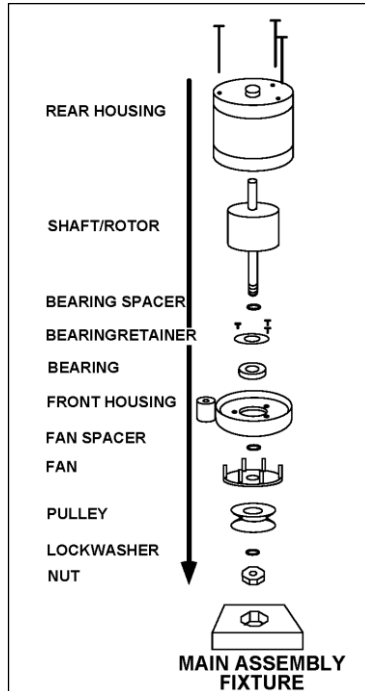

Figure 10
2. Recommend necessary modifications in part design of the following alternator assembly as shown in figure 10 in order to improve the efficiency of its automated assembly.